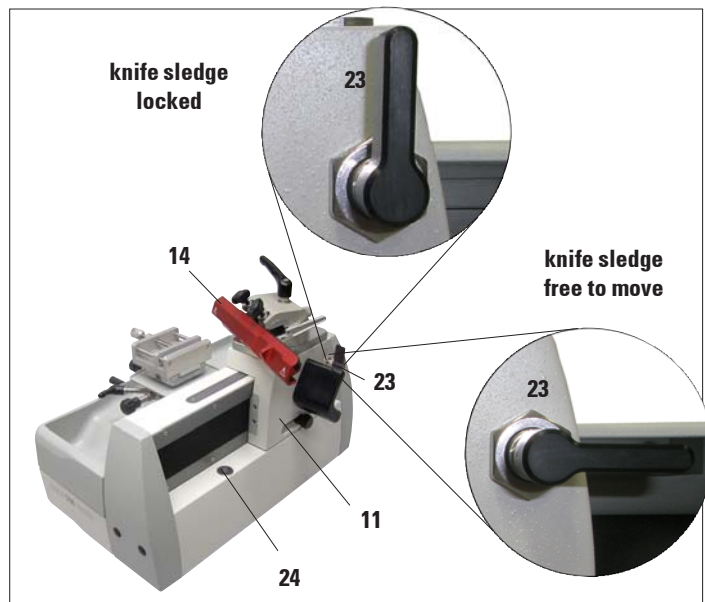

Fig. 2
- Before transporting the instrument, the knife sledge must be locked with the locking knob (23, Fig. 2)!